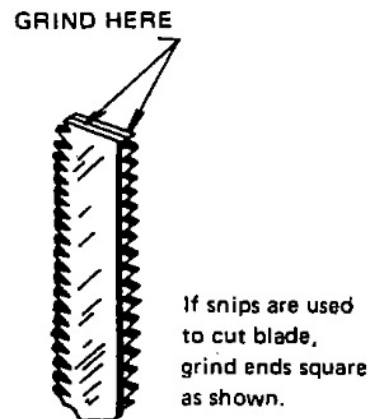

Figure 13-3
**Squaring Ends:** If the saw band cut is not square after shearing, use the grinding wheel to square it up. Take small cuts so as not to overheat the blade band. To get both ends of the band to match perfectly, twist it and hold the ends so that the teeth are on opposite sides and pointing in opposite directions. Now grind as shown in Figure 13-3.